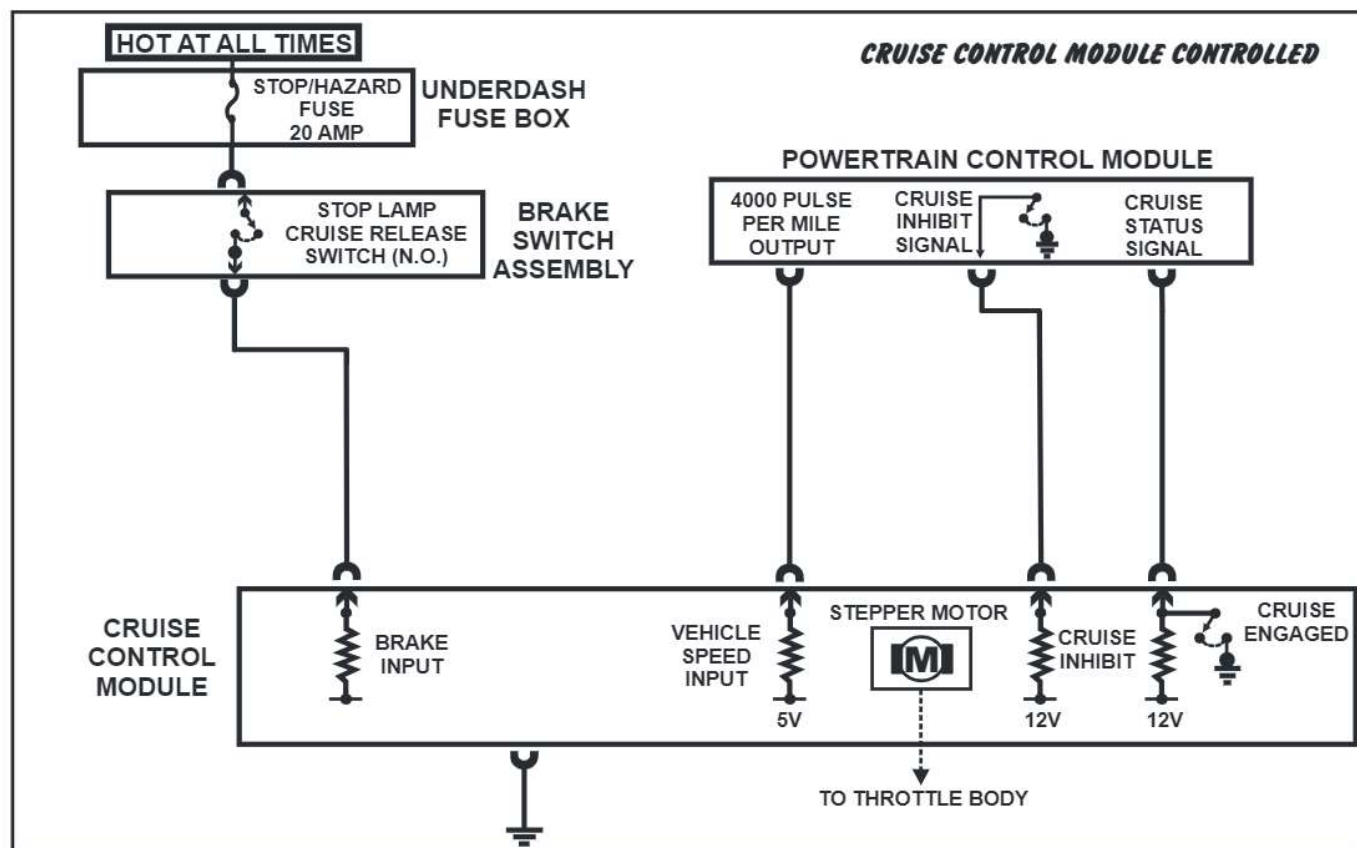

Figure 155
- On systems that are Cruise Control Module controlled, check the "Cruise Status" circuit, (Refer to Figure 155). If 12 volts are seen on this circuit, then Cruise Control is engaged, If less than 1 volt is seen, Cruise Control is disengaged.